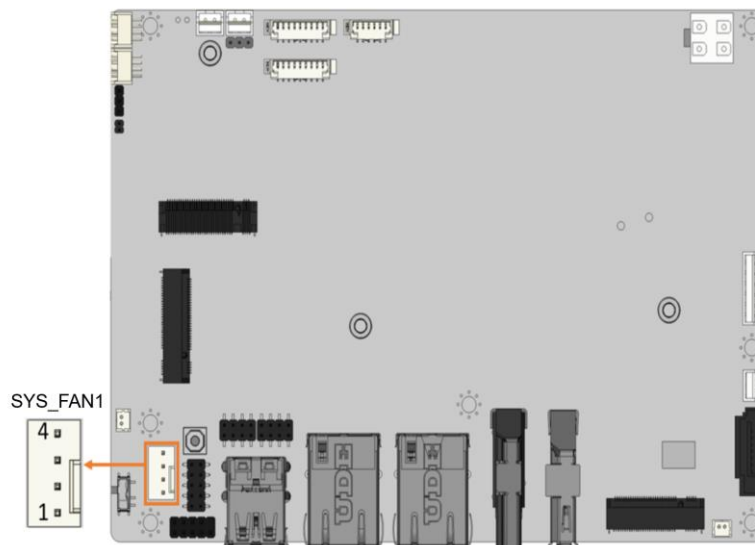

Figure 4-8: Fan Connector Location
- CN Location:** See **Figure 4-8**